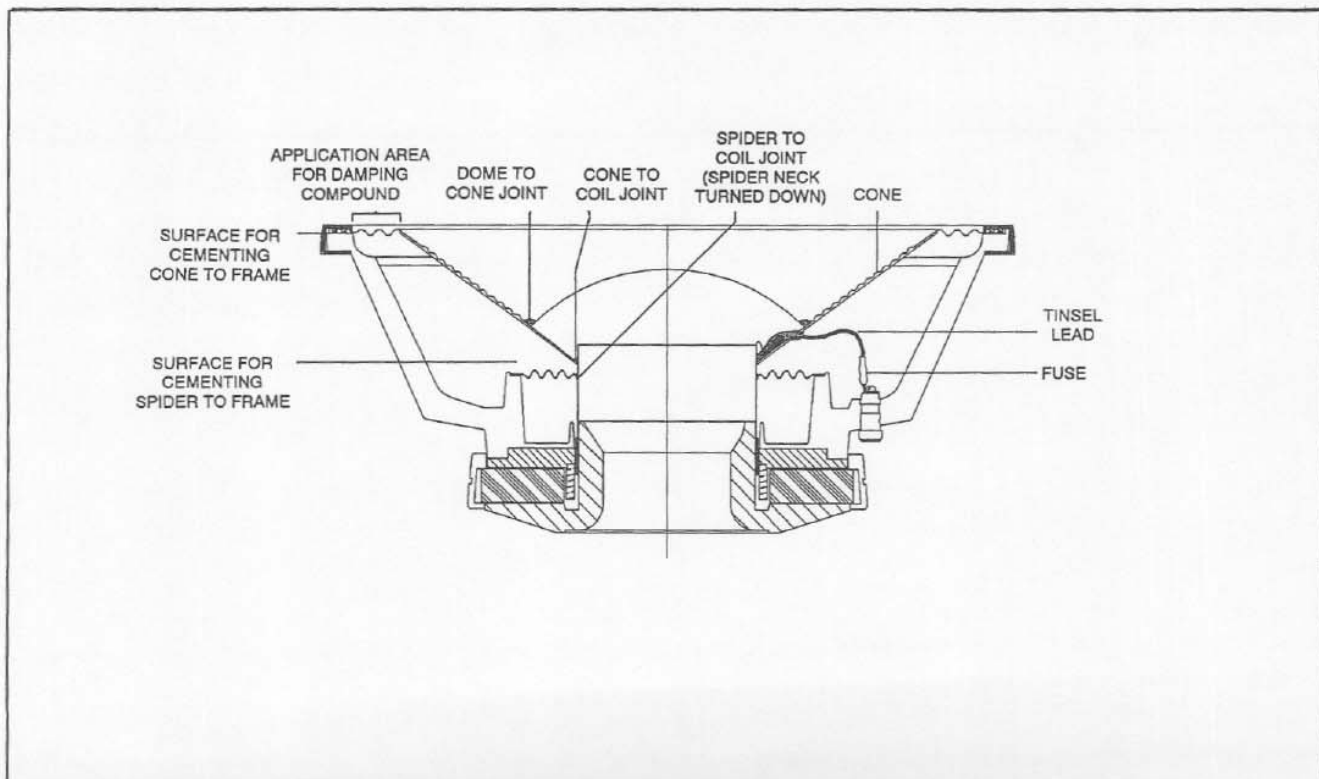

Figure 1. EVX Gluing Instructions
4. Remove the white heat shrink tubing from the fuse that is attached to the positive input terminal (see Figure 1). Check the continuity of the fuse using an ohmmeter. Replace the fuse with a BUSS GFA10 (10A, FAST BLOW) fuse if necessary. **CAUTION: REPLACE THIS FUSE ONLY WITH ONE THAT IS OF THE SAME TYPE AND RATING.**
13. Slide the piece of heat shrink tubing (EV #66093B) over the tinsel lead that attaches to the fuse which is connected to the positive input terminal (see Figure 1). Solder the tinsel lead to the fuse using a 10W, 500°F soldering iron. Using an iron of higher temperature may damage the fuse. Slide the tubing over the fuse and shrink using a heat gun.